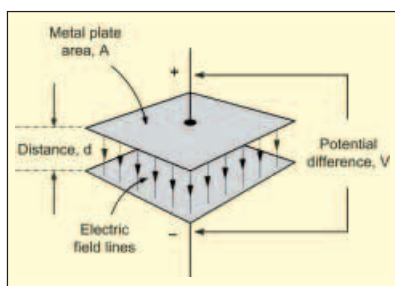

Fig.3.2. A simple parallel-plate capacitor
A simple *parallel plate capacitor* is shown in Fig.3.2 In practice and although air-spaced capacitors are used in some radio frequency (RF) applications, the space between the plates of most capacitors is filled with an insulating material, known as a *dielectric*. Typical dielectric materials